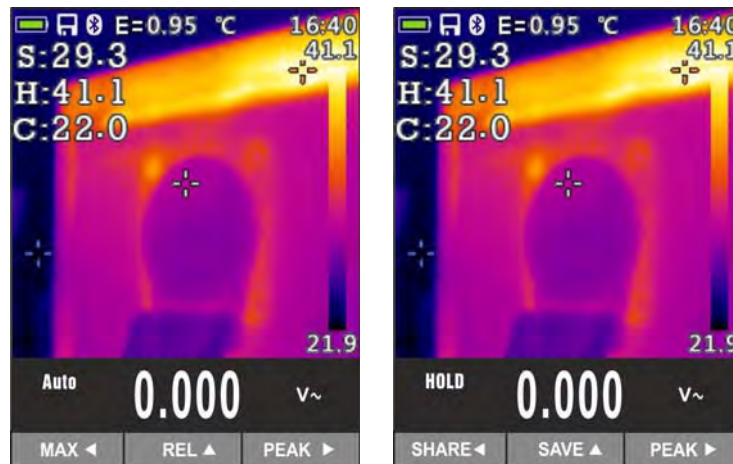

Fig. 41: Saving IR images
- Press key **HOLD/ESC** to freeze the result. Message “HOLD” appears on the display and key **REL ▲** becomes **SAVE ▲** (see Fig. 41 – right side).